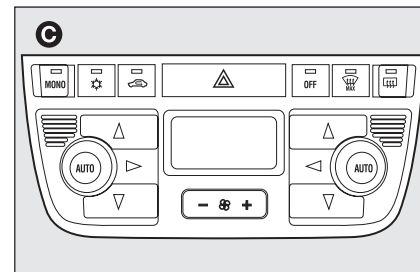

fig. 7
- with automatic two-zone climate control system **C-fig. 7**.